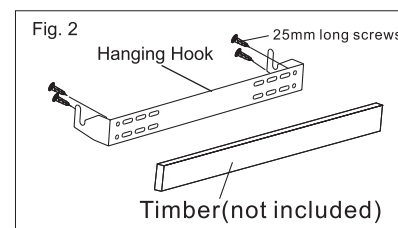

Fig. 3
After cleaning, assemble in the sequence of "exhaust filter - lint filter - exhaust vent shroud", align the recesses in the center with the projection in the center of the drum. Make sure that it is firmly inserted (as shown in figure 3).
5. Install exhaust pipe: for upwards discharge, join sections 1 and 3, for downwards discharge, join sections 1, 2, 2 & 3 as per Fig.3.